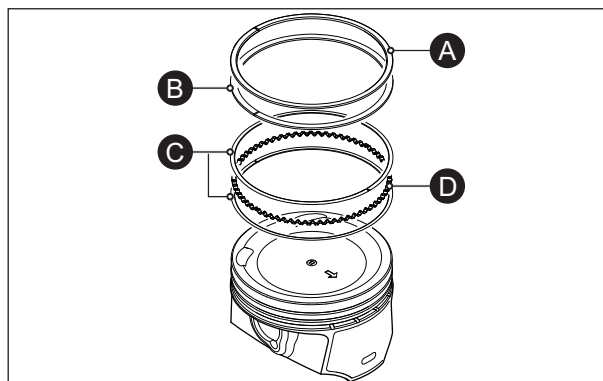

Fig. 3.87
- Remove the ring piston top (1st) (A), piston ring 2nd (B) and oil rails (C) along with spacer (D). (Fig. 3.87)